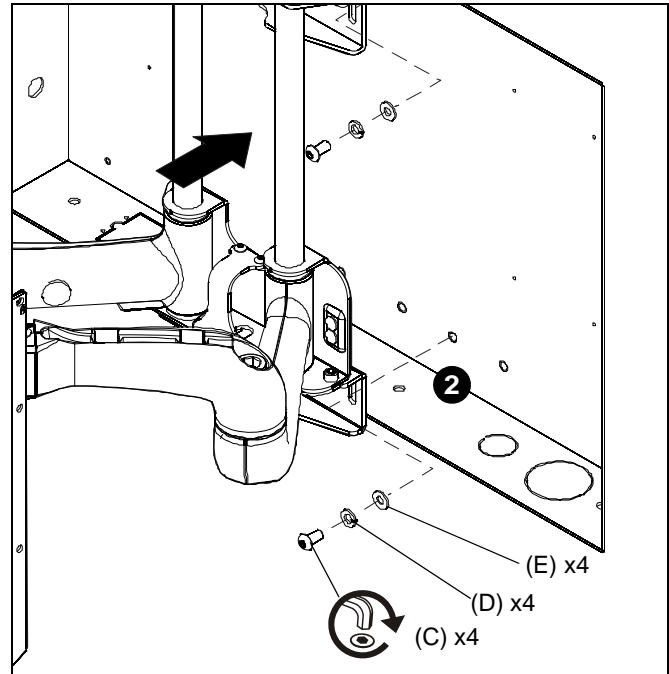

Figure 3
2. Secure swing arm to PAC501 using four button head cap screws (C), four lock washers (D) and four flat washers (E). (See Figure 3)